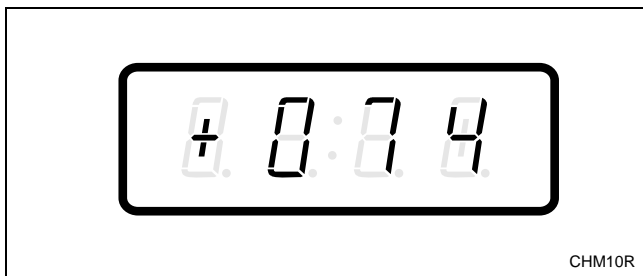

Figure 178
3. Press the DELICATES (+) or the COLD (-) keypad to scroll through the programmable options until “+074” appears in the VFD. Refer to *Figure 178*.